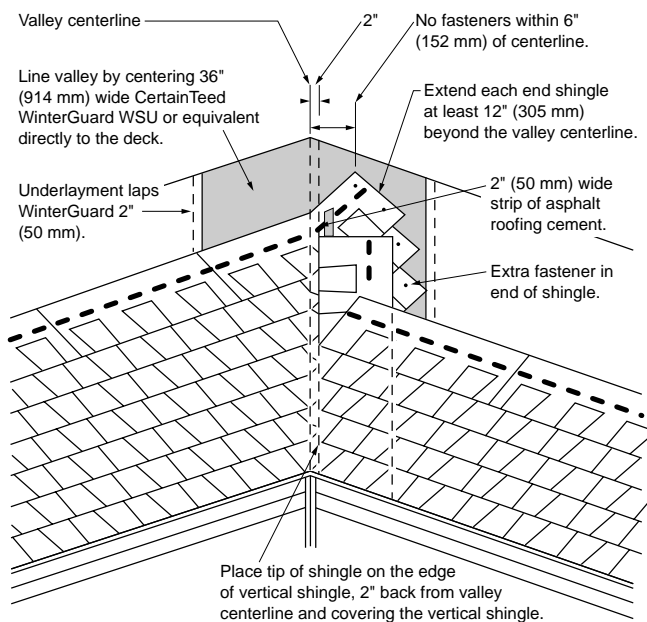

Figure 6-18: Alternate closed valley application.
5. Apply the shingles on the adjoining roof plane by positioning the lower left corner of the shingle of each row 2" back from the centerline (flush with the edge of the vertical shingle.) and over the top of the "vertical shingle." See Figure 6-18.